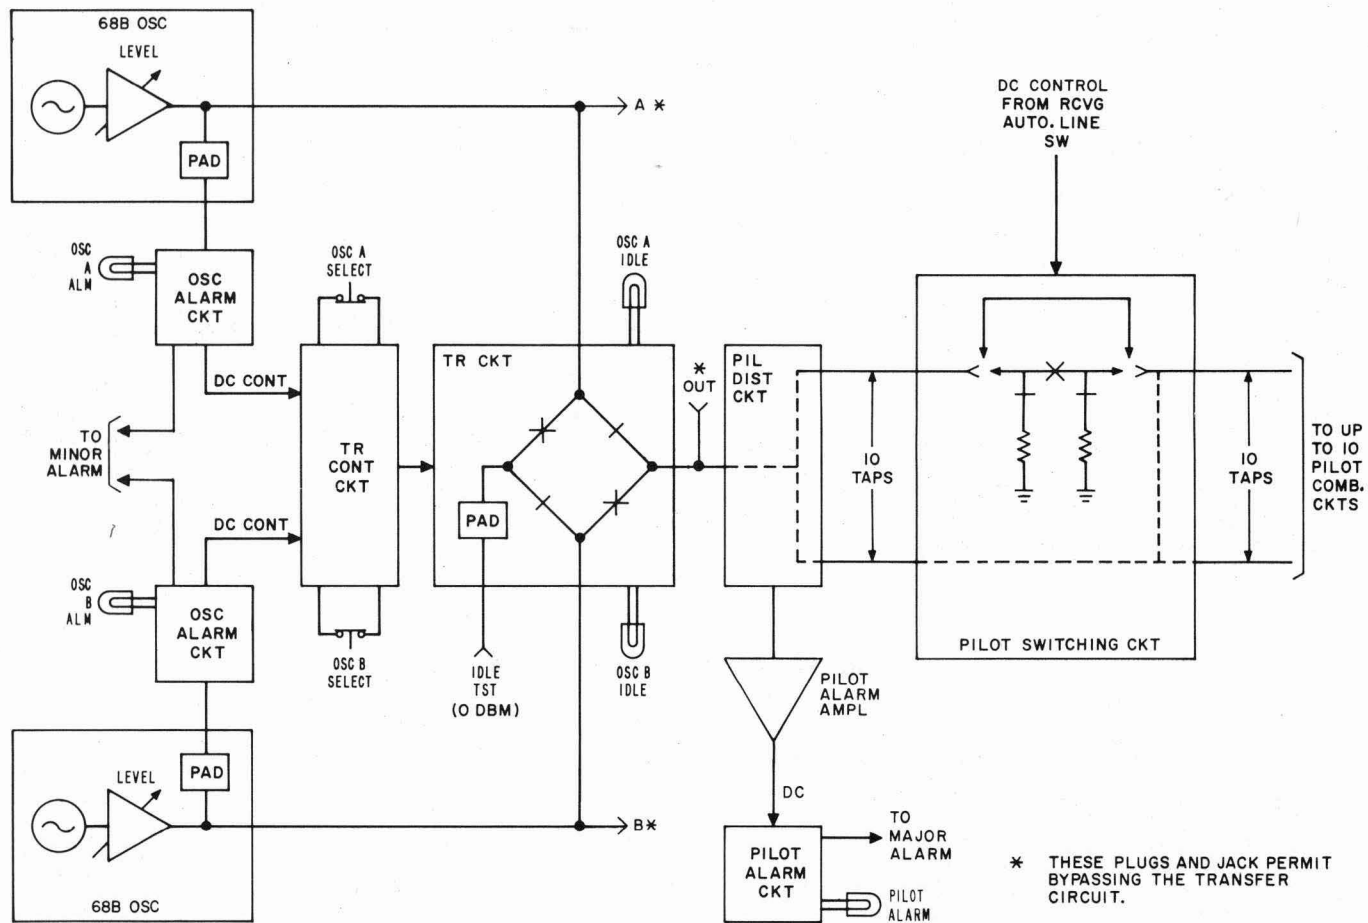

Fig. 19—11.648-MHz Pilot Circuit
9.08 Two 68B oscillators are used in the 11.648-MHz generator, as shown in Fig. 19.